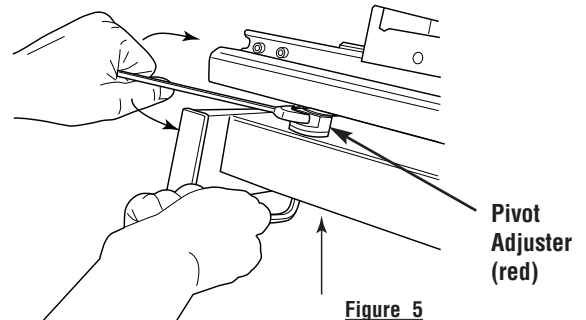

Figure 5
- A. Raise saw 2"-3" from table or workbench (front and rear) gaining access to (red) pivot adjuster bolts. See Figure 5.
directly below adjuster. See Figure 5.